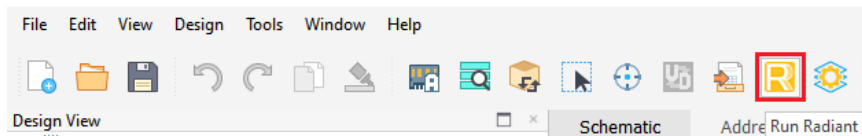

Figure A.17. Radiant Tool Button
- Open the the **Radiant** tool from the Propel Builder interface as shown in Figure A.17.